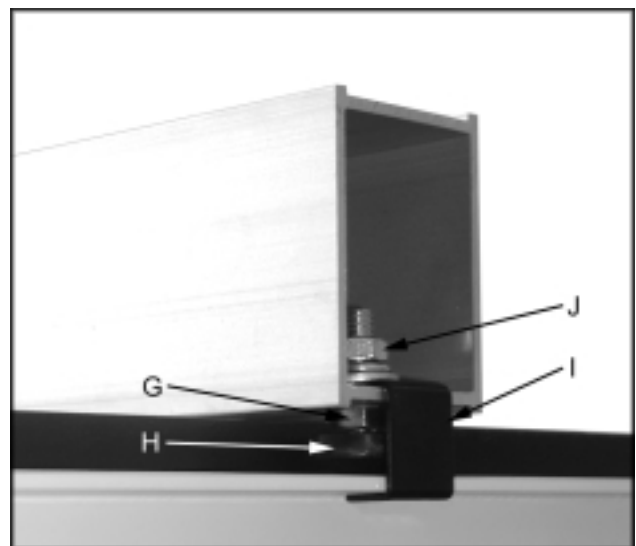

Fig. 10
2. Thread a hex nut (G, Fig. 10) onto the pad's threaded stud (H, Fig. 10) and insert through the fence and rear hook (I, Fig. 10). Secure in place using a hex nut, lock washer and flat washer (J, Fig. 10).